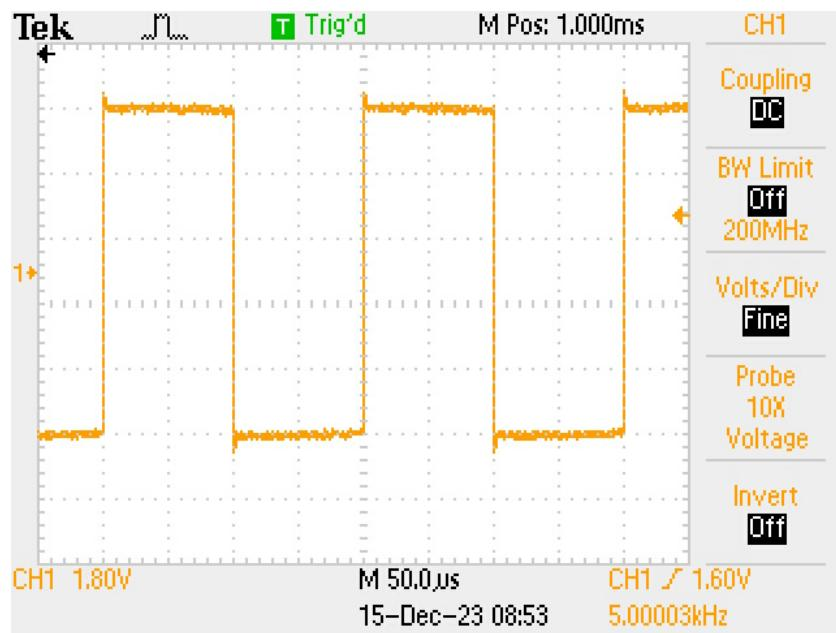

Figure 1.15: Rise Time Set-up Waveform
1. Increase the square-wave test signal frequency until the tilt is mostly gone, see Fig 1.15.
2. Use the **Fine** Volts/Div to adjust the signal to have exactly 5 major divisions peak to peak, see Fig 1.15.